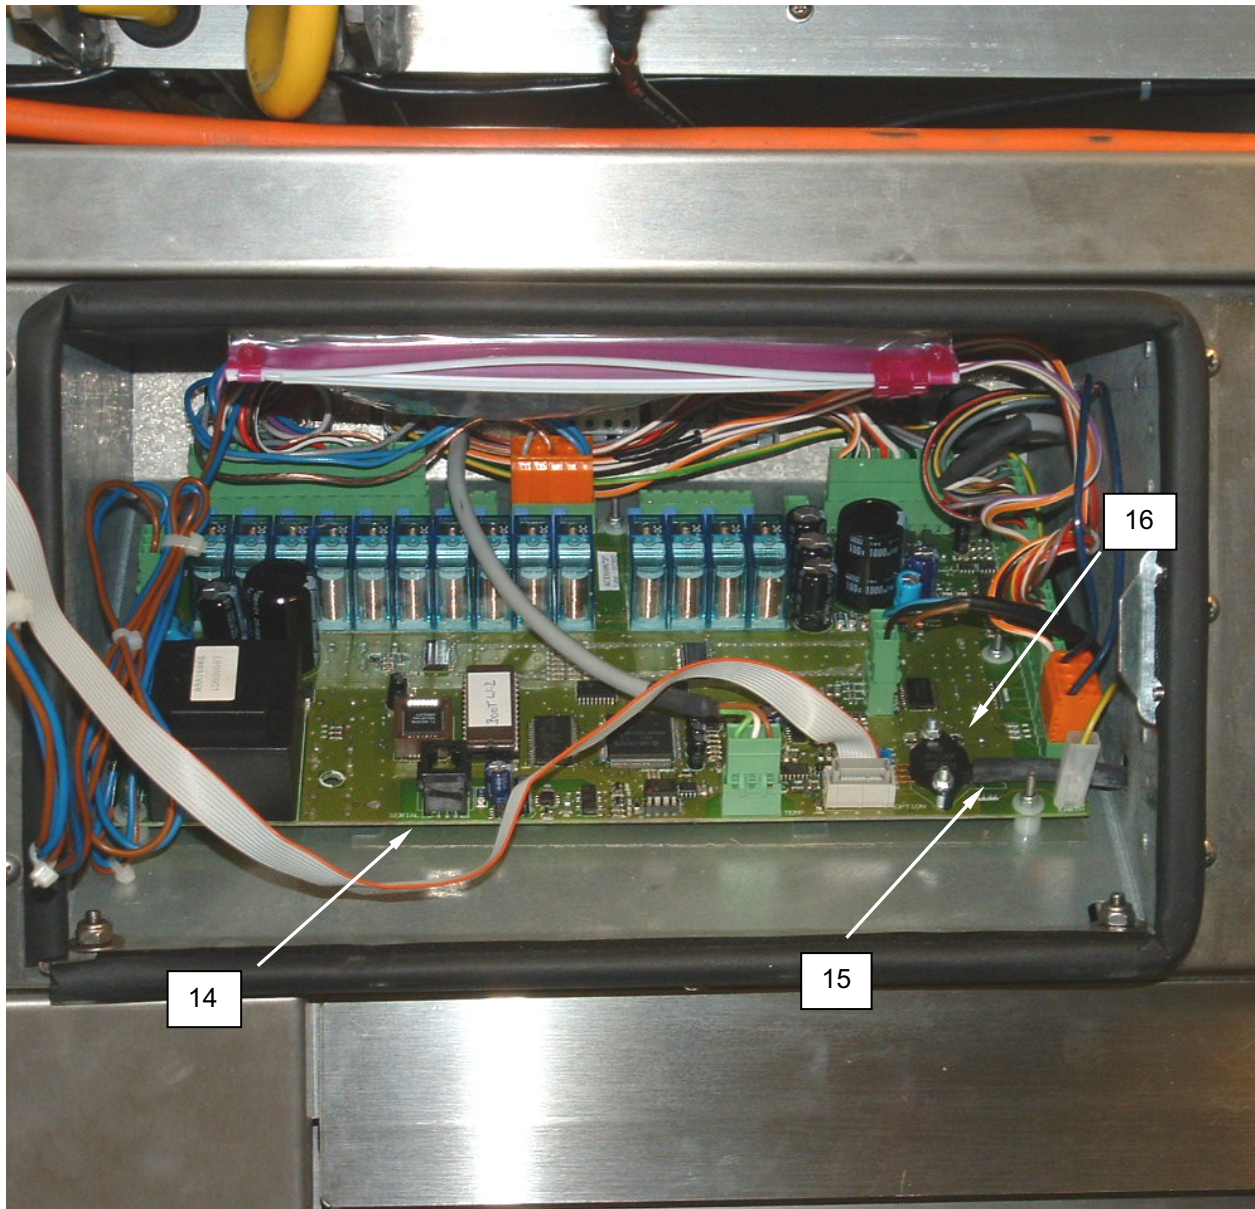

Figure 5. Replace the Microprocessor Board.
3. Tag and disconnect wiring from board (**Figure 5, Item 14**).
4. Remove screws retaining the board (**Figure 5, Item 14**), and remove the board.
5. Disconnect level sensing tube (**Figure 5, Item 15**) from the level sensor (**Figure 5, Item 16**).
6. Connect level sensing tube (**Figure 5, Item 15**) to the level sensor (**Figure 5, Item 16**) on the replacement board.
7. Install replacement board (**Figure 5, Item 14**), and retain with screws.